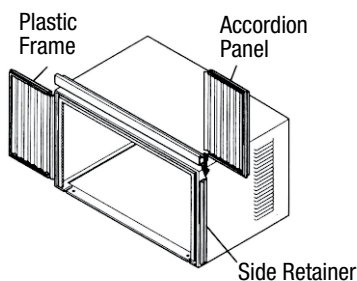

FIG. 9
2. Slide "I" section of accordion panel into side retainer on the side of the cabinet. (See Fig. 9) Do this on both sides.